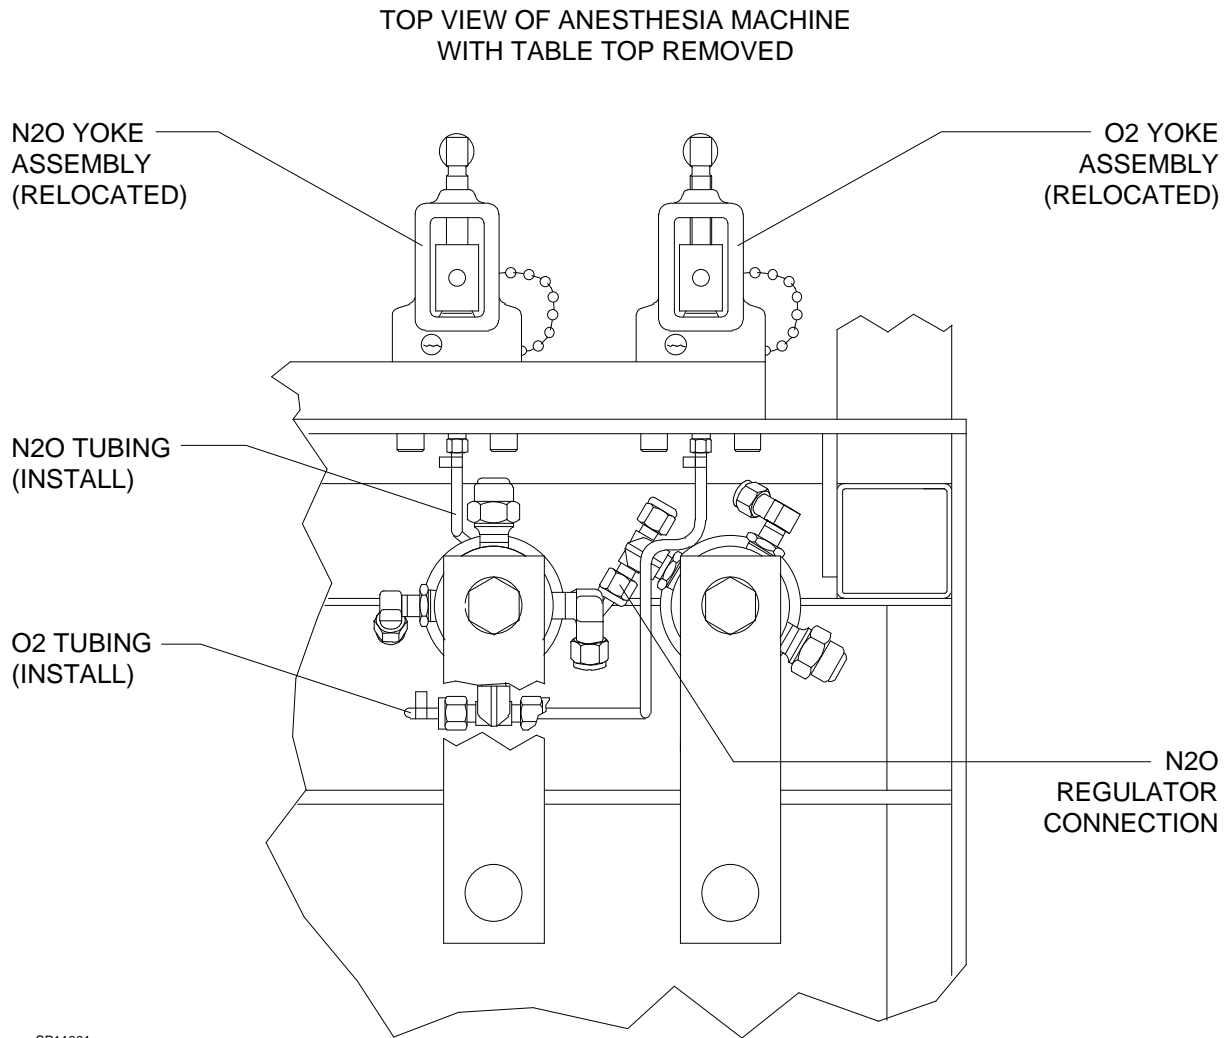

Figure 1: YOKE RELOCATION AND TUBING CONNECTIONS
11. Install the nitrous oxide yoke on the rear of the machine, located as shown in Figure 1. For machines with a mounting spacer, use the mounting hardware that was previously removed. For machines without a mounting spacer, use two 5/16-24 x 3/4 in. skt hd screws (P/N HW01056).
12. Install the oxygen yoke on the rear of the machine, located as shown in Figure 1. For machines with a mounting spacer, use the mounting hardware that was previously removed and ensure that the yoke is level. For machines without a mounting spacer, use two 5/16-24 x 3/4 in. skt hd screws (P/N HW01056).